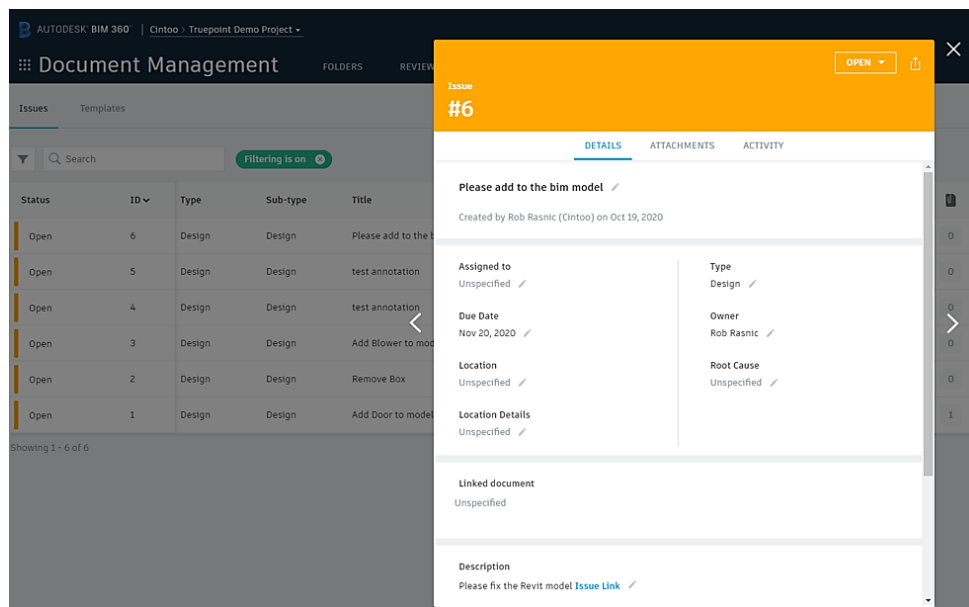

FIGURE 22: SELECT “ISSUE LINK” TO VIEW IN CINTOO CLOUD
- Click on the **Description** – Issue Link in Autodesk BIM 360 to take you back into Cintoo with the same view and 3D orientation that the issue was created at for further analysis. (Figure 22)